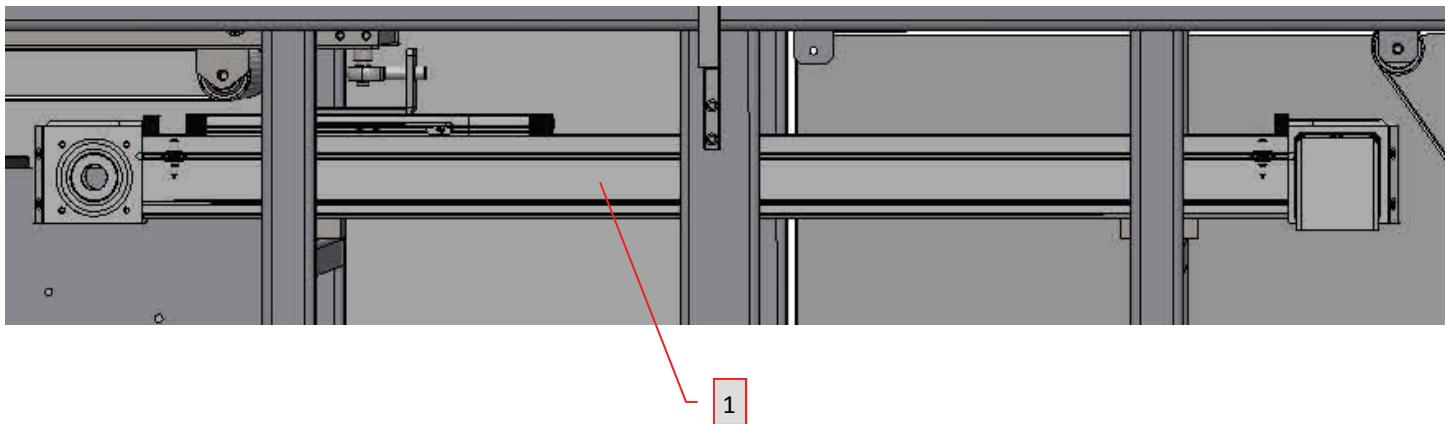

FIGURE 19—Retracting Actuator assembly
2. Hook up air (Figure 19, Page 20).